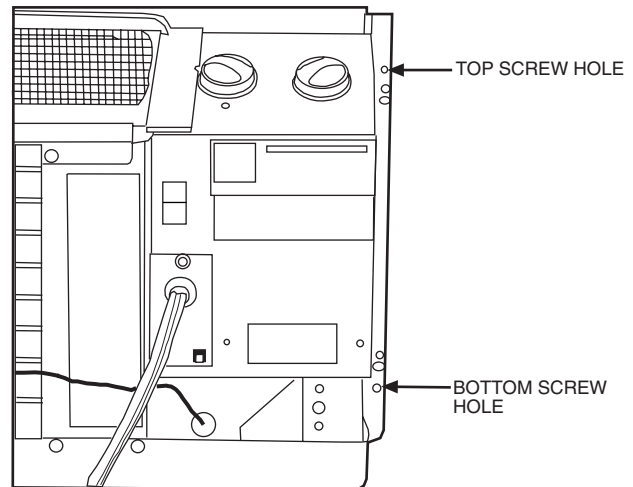

FIGURE 9 — CHASSIS MOUNTING
5. Screw chassis to wall sleeve with four 1³/₄-in. long screws taped to the control box. Screw holes are located on both sides of the mounting angles of the chassis. Use only the top and bottom screw holes on each side. See Figure 9.